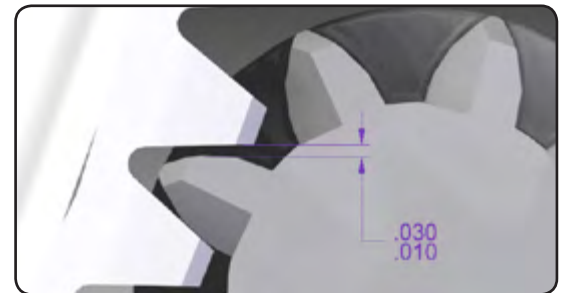

Figure 2
3. When the pinion is engaged with the ring gear, there should be $.010"-.030"$ backlash. **Figure 2** illustrates this. This can be checked with a wire gauge when holding the pinion into the ring gear. Make sure that the starter is disconnected from the battery before making this check.